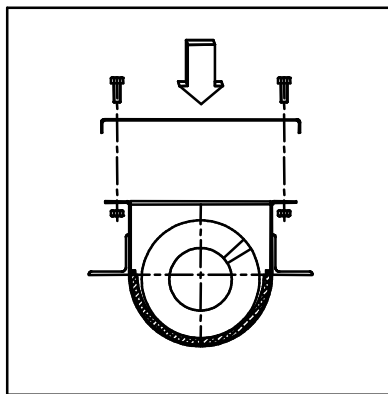

Figure 5.2g Replacing the Liner
8. Replace the lid to the trough (Figure 5.2g).